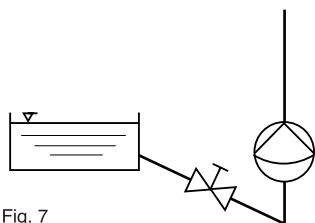

Fig. 7
- ▶ If necessary have the intake lines falling to prevent sucking in air bubbles (Fig. 7)